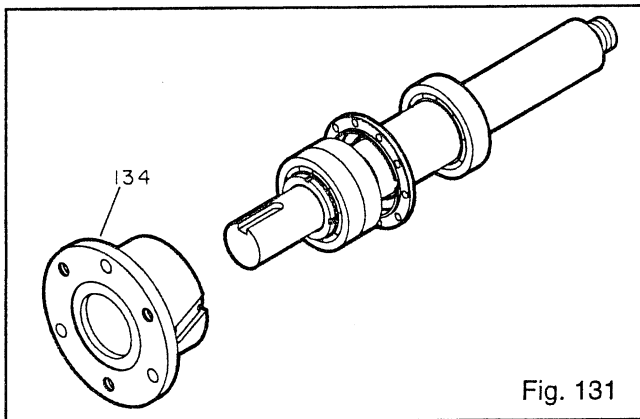

Fig. 131
13. Coat outside of bearing housing (134) with oil.
15. Install shaft assembly into frame (228A). Check shaft for free turning (Fig. 131).
17. Install jacking bolts (370D) with locking nuts (423) into housing (134A). Hand tighten.